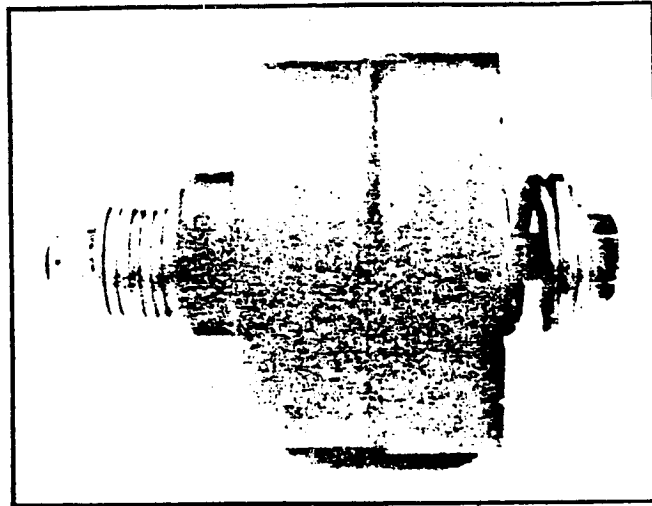

Figure 11. Cylinder block subassembly disassembly tool. (Tighten nut, remove snap ring, loosen nut to relieve spring tension).
In the following step, the spring located within cylinder block (9) is under a high tension and can cause bodily harm if retaining ring (15) is removed without adequate caution. See Figure 11 for disassembly instructions.
6. Remove parts (15) through (18) from the cylinder block (9).
8. Remove four mounting screws (1) and remove valve block (2) from housing (3). If unit is a through shaft model, install a new rear shaft seal (25) into valve block (2). Garter spring will face into the motor.
9. Remove bearing (5) and bearing spacer (8).
10. Locate a bearing spacer with calculated dimensions and place with shaft bearing (5). Use the original spacer if preload is not preformed. Set aside for final assembly.
11. Assemble spring (17), two washers (16) and (18) and retaining ring (15) into the cylinder block (9). See Figure 11 for instructions. Set the cylinder block S/A on a flat surface. Use Kraft paper between the block and surface to prevent scratching the cylinder block face.
12. Install pin retainer (14) into the cylinder block (9). Position the pin retainer approximately 1/4 inch below the surface, and orient the open end of the pin retainer to be away from the large spline openings.
13. Slide three pins (13) into cylinder block S/A until they bottom against pin washer (18).
14. Place spherical washer (12) on top of the three pins: Then install the shoe plate (11) with nine piston and shoe subassemblies (10) over the spherical washer and into the cylinder block S A. Wobble the shoe plate to make sure that each piston is free within its bore in the cylinder block. (Flood all parts with clean hydraulic fluid).
15. Install swash plate (20) over shaft (21) into housing (3). Set housing (3) on its side and hold the shaft end so drive shaft (21) is horizontal. Slide the rotating group into the housing. Rotate drive shaft (21) if necessary, to match the shaft splines to cylinder block (9) and spherical washer (12).
16. Install bearing spacer (8) with chamfer toward the shoulder of drive shaft (21).
17. Install tapered roller bearing (5) over the shaft and against the spacer. The small diameter of the tapered roller bearing must face toward valve block (2).
18. Install two (2) housing pins (19) and place a new gasket (4) over them. Cover the unit and set aside for final assembly.